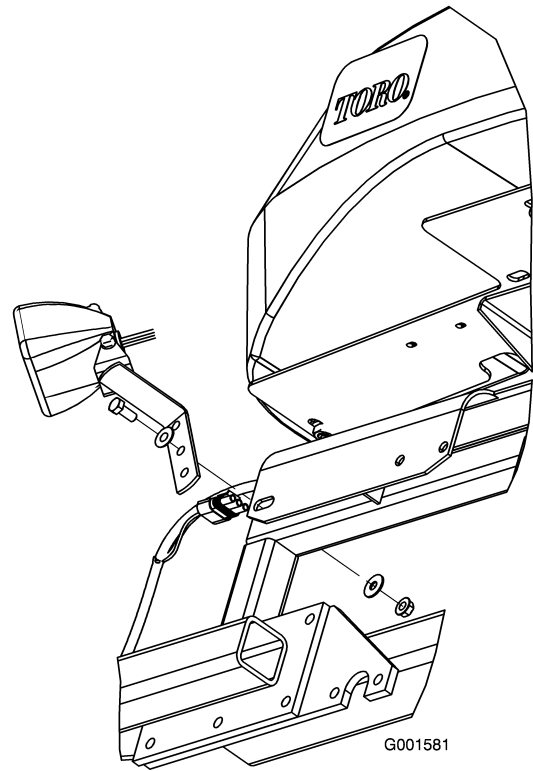

Figure 17
2. Secure the side lamp and attached bracket to the frame using a bolt, a curved washer, and a hex nut (Figure 17).